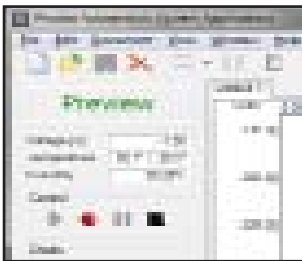

**Figure 24: Access Current Measures through the Edit Menu**
1. Press **Edit** on the menu bar and select Current Measures. See Figure 24 and 25.